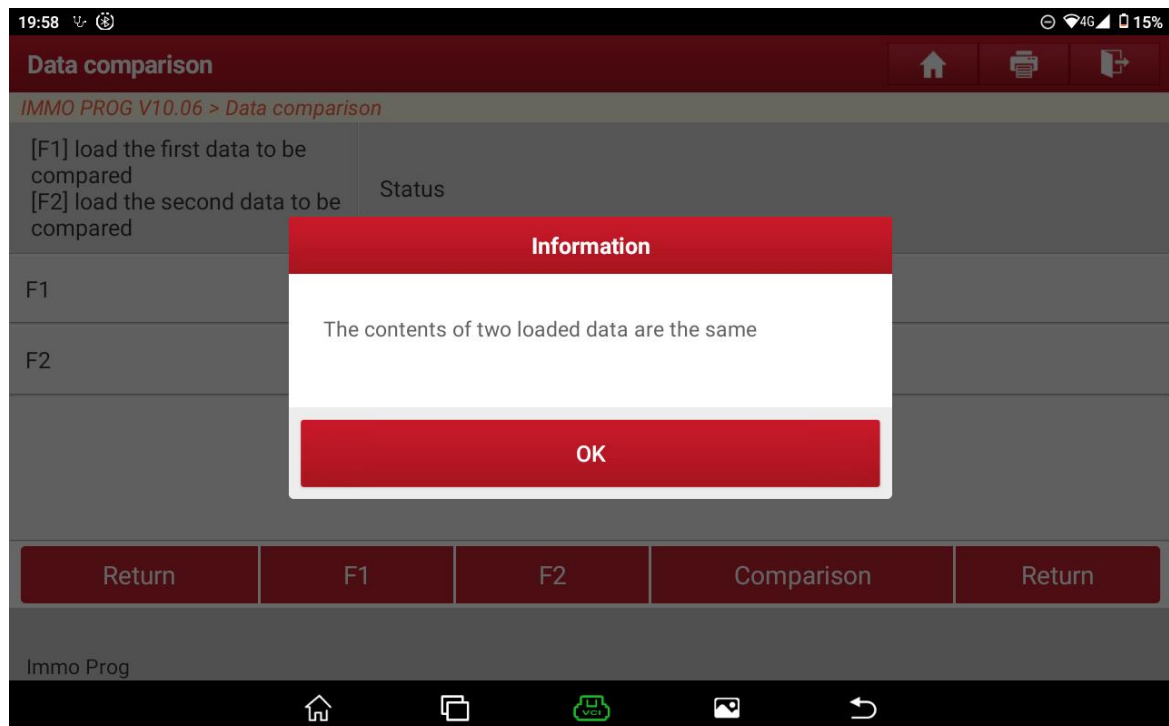

Figure 20
14. Click **【Comparison】** , as shown in Figure 20, and finally install the external gearbox on the vehicle.